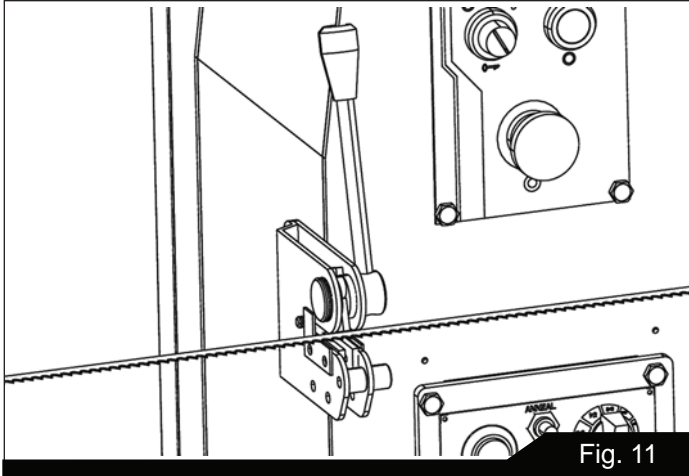

Fig. 11
2. Position blade against back of square cutting guide of shear. See Figure 11. Make sure blade is held square with shear knife, so that cut will be square with blade. (Continue on next page).